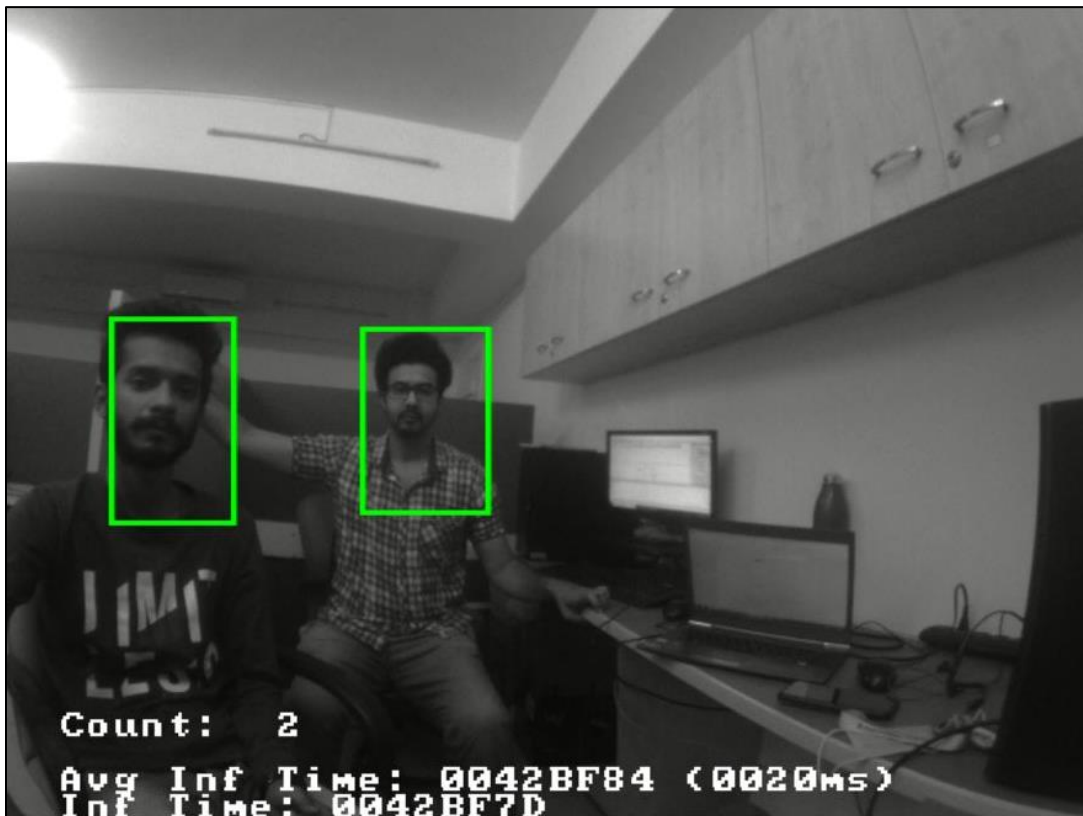

Figure 5.1. Running the Demo
4. The camera image should be displayed on the monitor as shown in Figure 5.1.